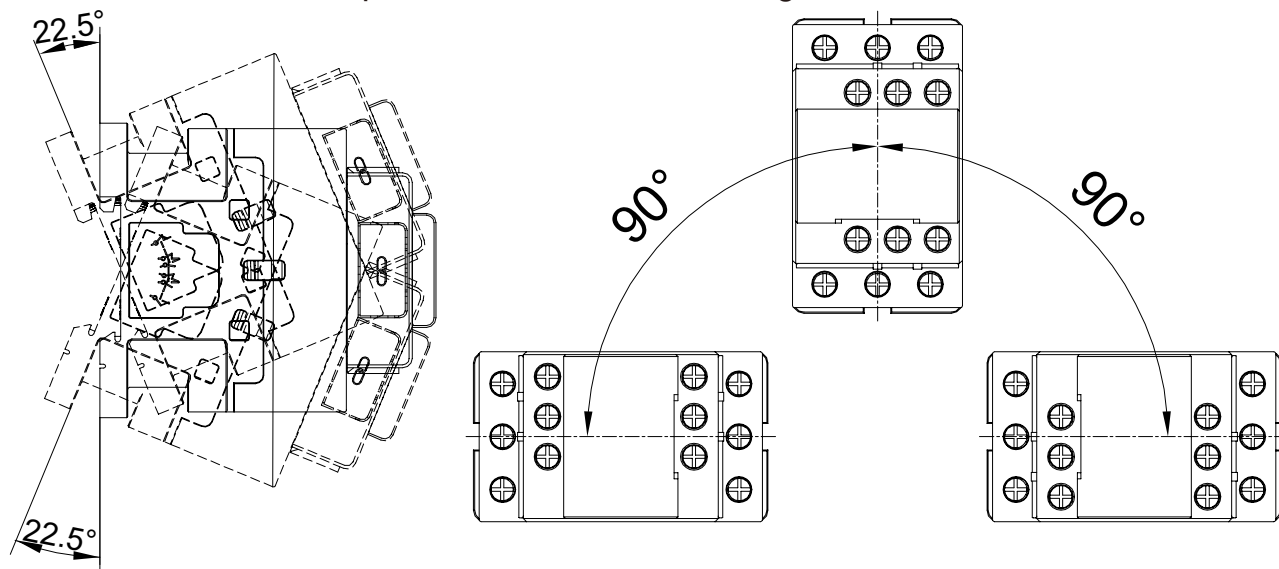

Fig. 6 Installation requirements
- Product installation requirements are shown in Figure 6.